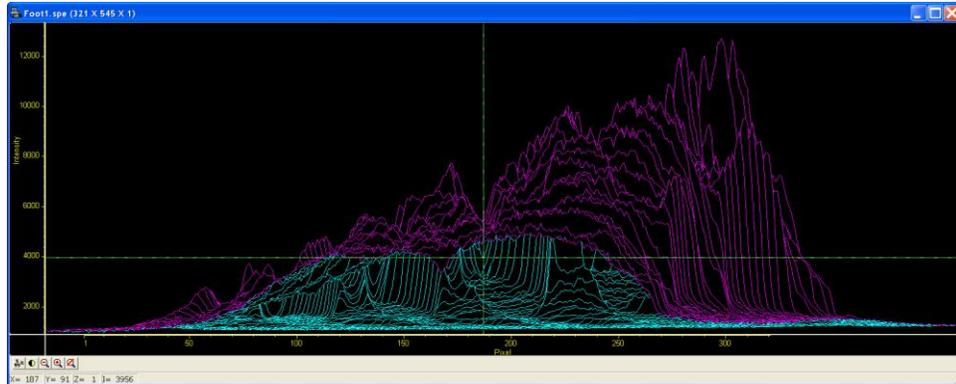

Figure 65. 3D Plot with Hidden Surfaces
3. Click on **OK**. The data should be redisplayed as shown in Figure 65, with the hidden surface (lighter lines) clearly visible. Note that the **Info Bar** has been turned on so you can view cursor position information: turn this bar on by selecting it from the **Display** menu or on the **Display Layout|General** tab.